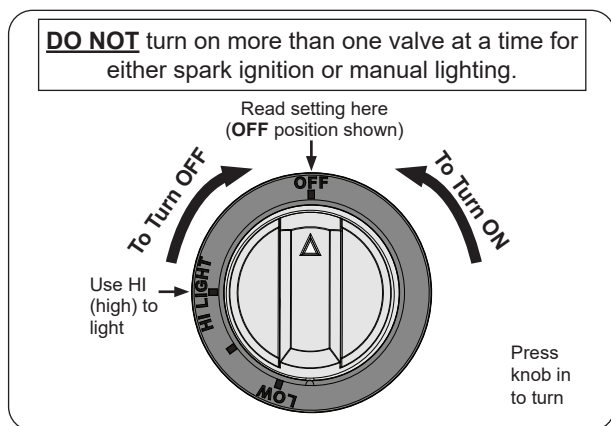

Fig. 33-1 Control knob
4. Depress the desired control knob, and while pressing turn it counterclockwise to the **HI LIGHT** position (Fig. 33-1). Once the burner lights, release the knob.
**CAUTION:** If a burner does not light within five (5) *seconds* of turning on the control knob, depress the knob and turn it to the **OFF** position. **WAIT FIVE (5) MINUTES** before repeating step 5. If you smell gas, follow the instructions on the cover of this manual. If the burners still do not light after several attempts, refer to the instructions for manual lighting.